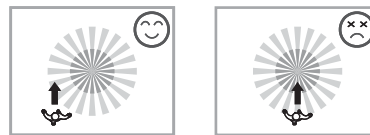

FIG. 4
4.1.2. Pay attention to the walking direction in the test proceeding. It is more sensitive to movement across the detector and less sensitive to movement directly toward to detector which will reduce the detection coverage (See FIG. 4).